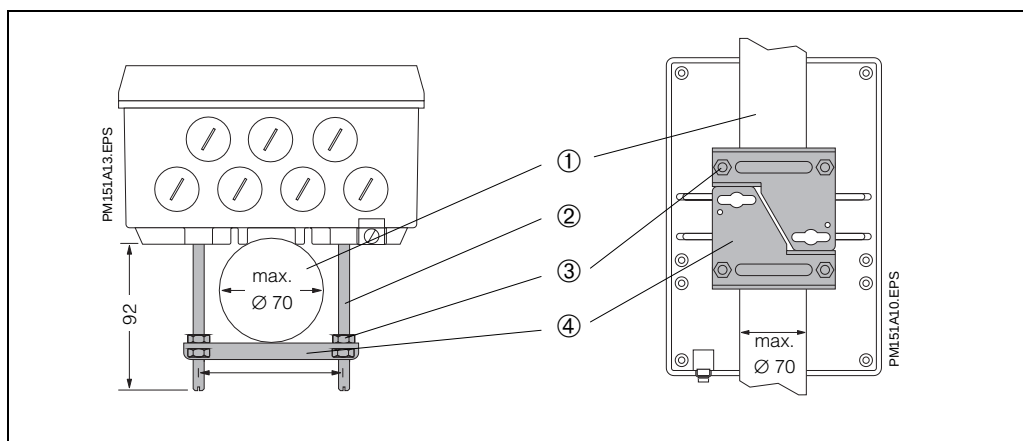

Fig. 3.7: Installation of field housing on vertical tubing
The weather protection cover CYY 101 can be installed directly on upright post of assembly holder CYH 101 by means of 2 screws (M8), see fig. 3.7, mounting position ①.